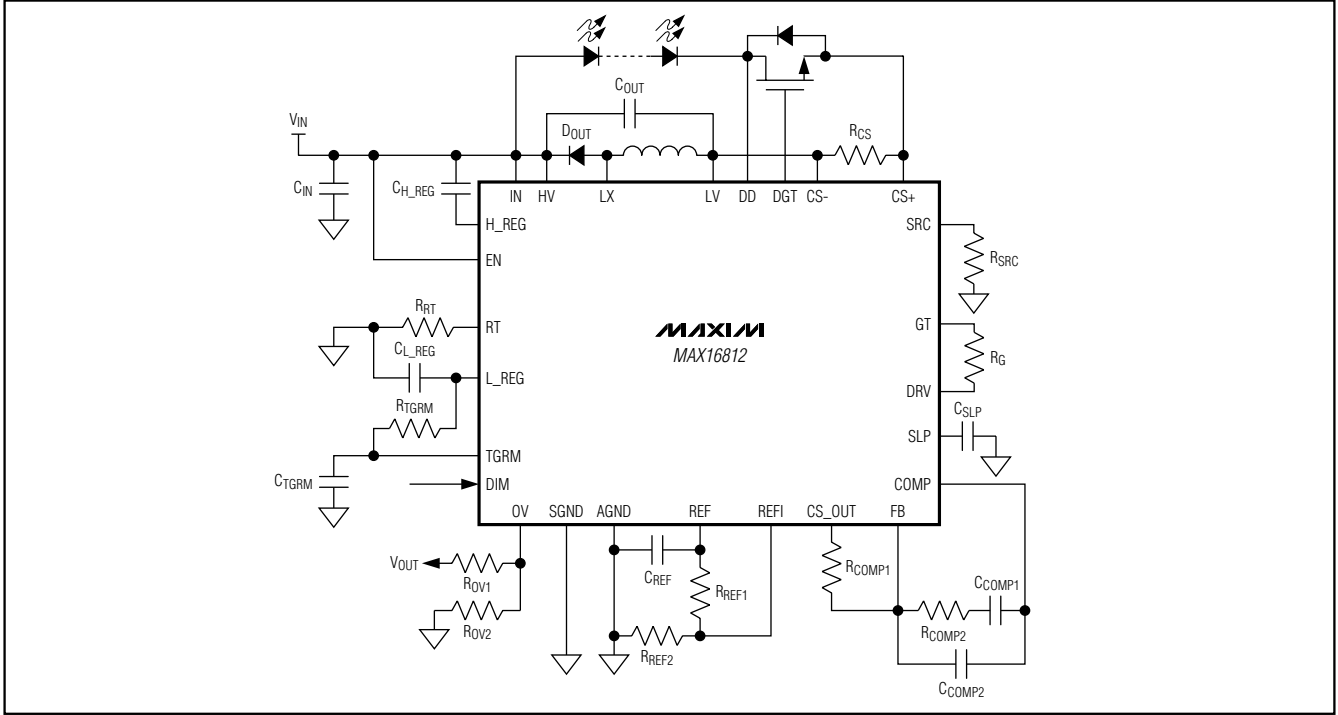

Figure 13. Buck Configuration
**Buck Configuration:** In a buck configuration (Figure 13), the average inductor current does not vary with the input. The worst-case peak current occurs at the highest input voltage. In this case, the inductance, L, for continuous conduction mode is given by: